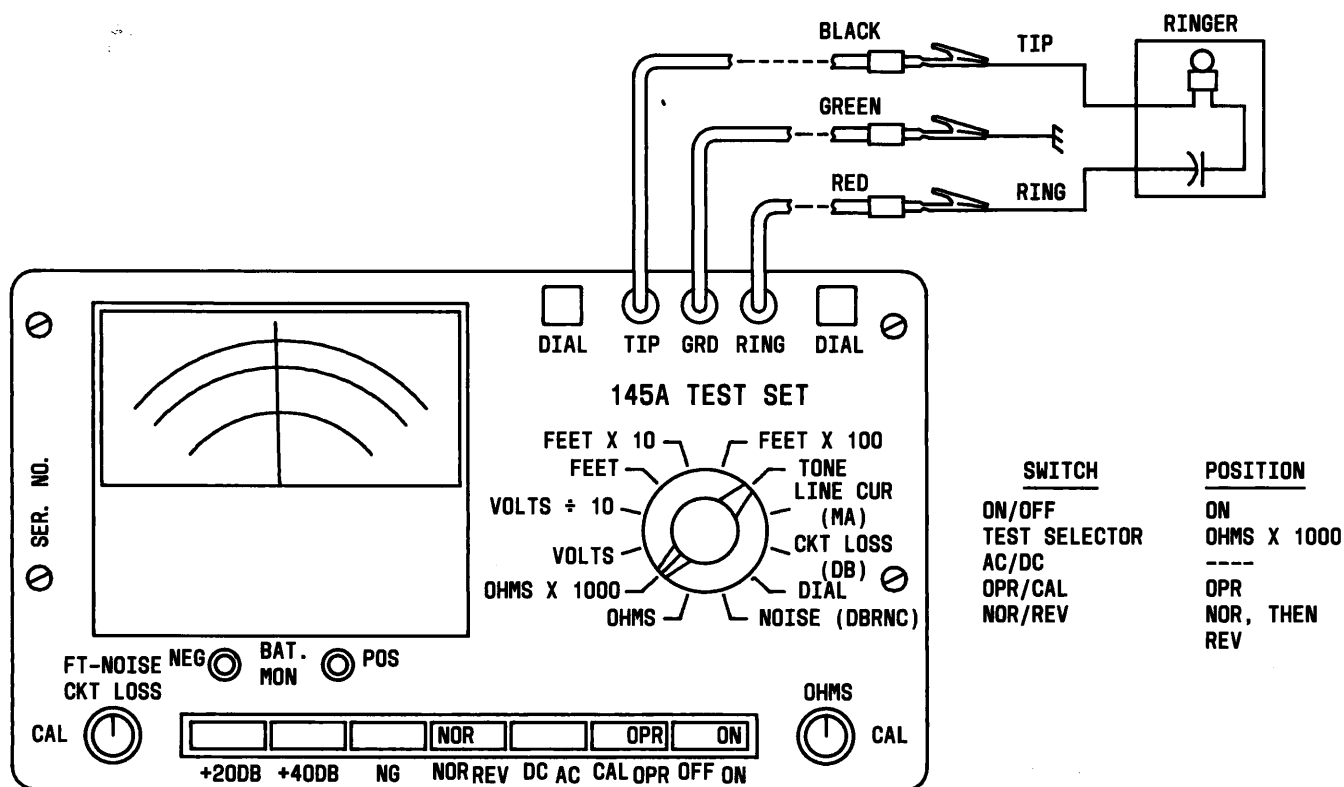

Fig. 3—Ringer Detection
3.05 Ringer Detection (Fig. 3): Perform this test to determine the presence of one or more ringers on a line.